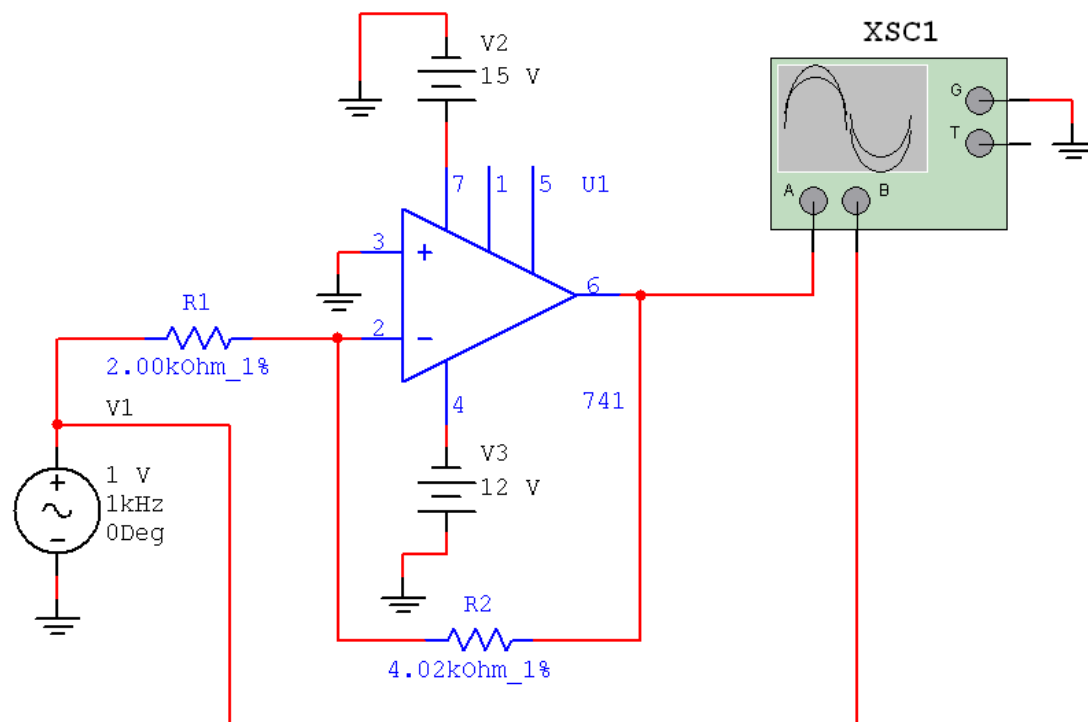

Fig.10 Inverting Operational Amplifier
- Construct the circuit shown in Fig.10.